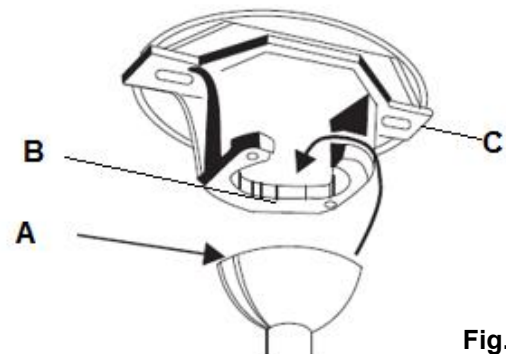

Fig. 7
Lift the fan assembly onto the mounting bracket. Ensure the key slot (A) of the hanger ball is positioned on the key pin (B) of the mounting bracket (C) to prevent the fan from rotating when in operation. **Fig.7**
1. Hang the complete fan assembly onto mounting bracket. (**Fig. 7**)